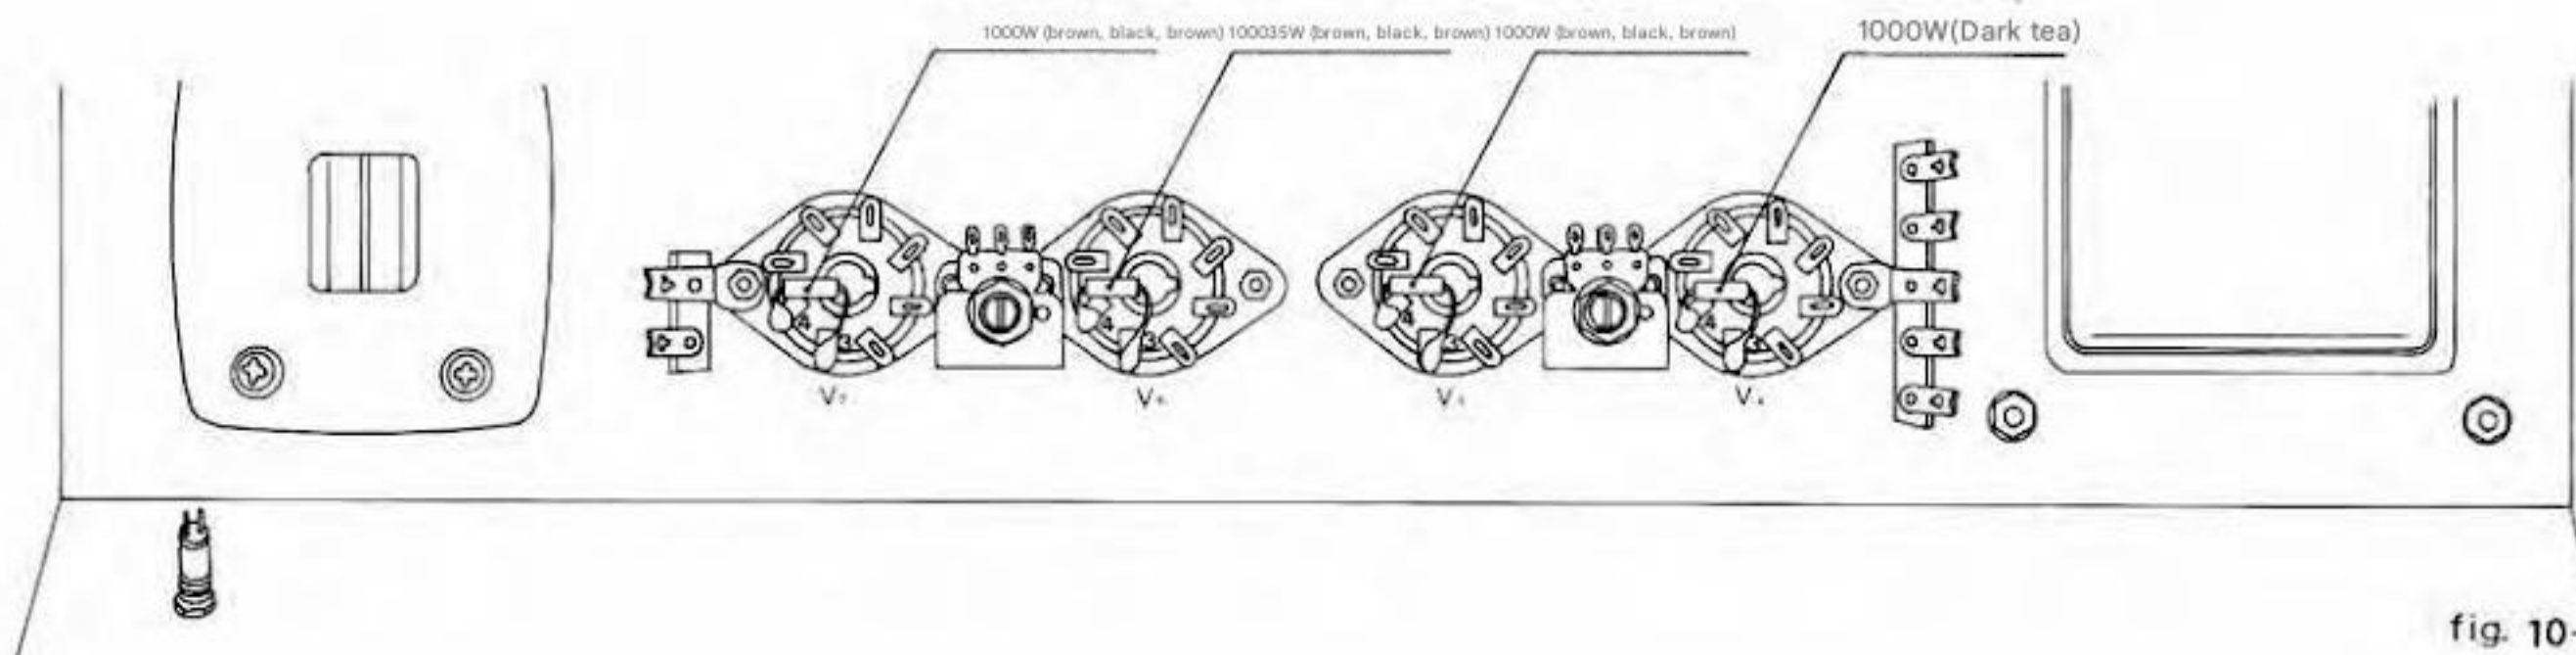

fig. 10-1
Wire four 1002/W resistors as shown in the actual wiring diagram in fig. 10-1, and follow the adjustment method described in the "Adjustment Method" section. However, change the B-P voltage drop of 8V in adjustment items (4) and (5) to 7V (6.5V to 7V). At this time, the voltage between the output tube's control grid (PIN5) and ground will be about -38V when checking the voltage in (7).